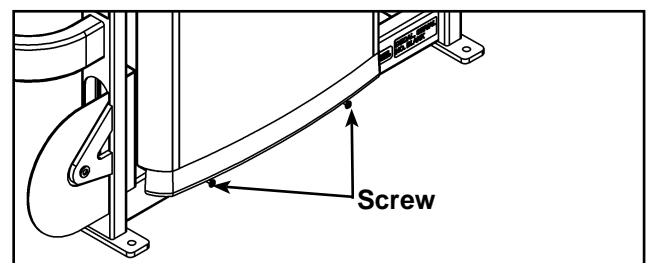

Figure 13
- A. Carefully place shroud back into position on the two bottom screws. See Figure 13.